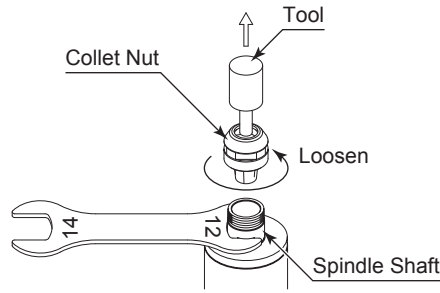

Fig. 5
① Remove the tool according to the section " 7. CHANGING THE TOOL " procedure above and remove collet nut assembly. (Fig. 5)